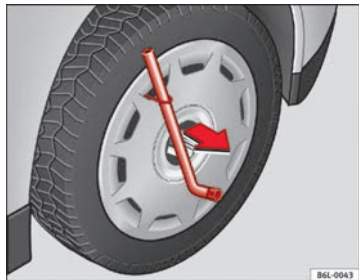

Fig. 119 Remove the complete hub cap
- Remove the wheel cover using the wire hook ⇒ Fig. 119.